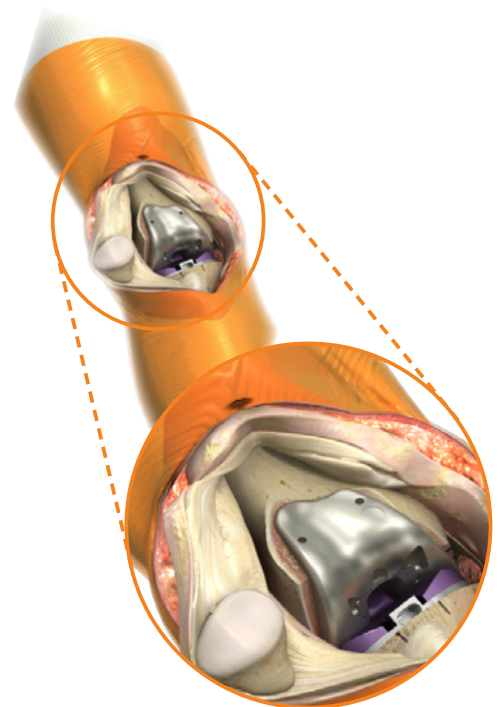

Figure 22a
- Use a cautery to mark the location of the laser marked lines on the anterior surface of the tibia to reference the baseplate rotation (Figure 22a).